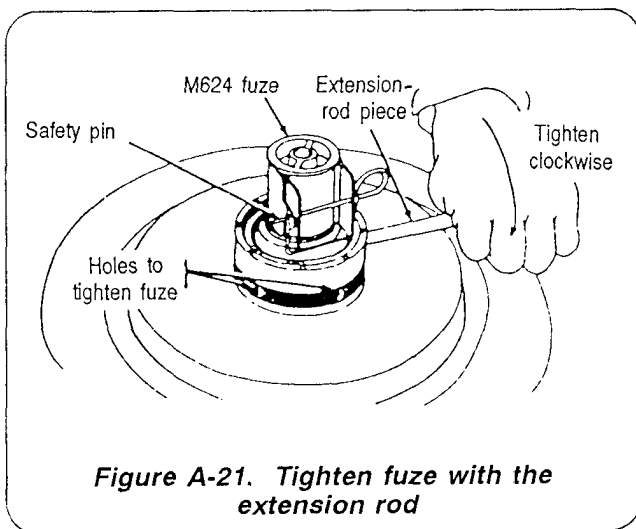

Figure A-21. Tighten fuze with the extension rod
- e. Tighten the fuze by inserting one unthreaded end of the extension rod piece into a hole on the side of the fuze. Turn the fuze a quarter turn (Figure A-21).